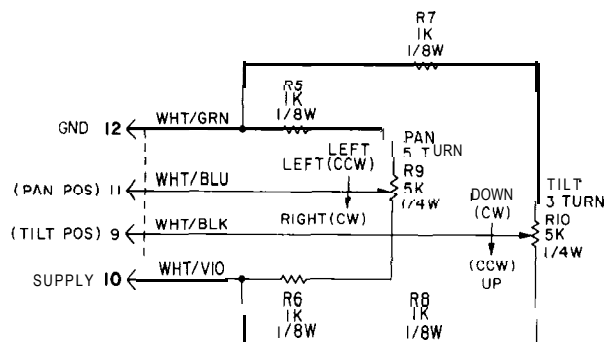

Figure 6
**NOTE:** For inverted mounting with the *VPP-1* Option, reverse the leads going to pins 10 and 12. (Refer to Figure 6, Wiring Diagram.)
If a unit equipped with a preset position option is disassembled, contact Vicon for reassembly and alignment instructions. Also see Figure 6 for preset wiring.